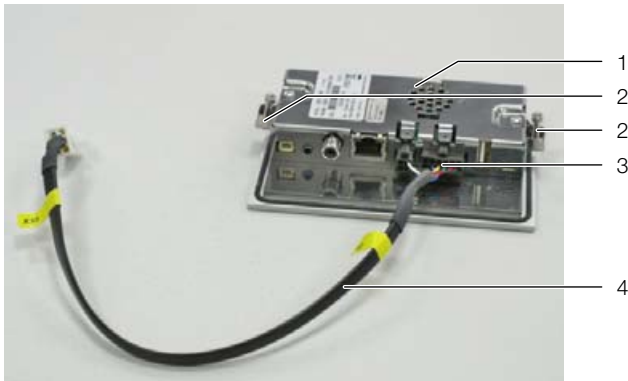

Fig. 36: Preparing the graphic display
- Insert the fastening clamps with screws (fig. 36, item 2) on the left and right of the display.
- Insert the connection cable (fig. 36, item 4) into the bottom of the display (fig. 36, item 3).